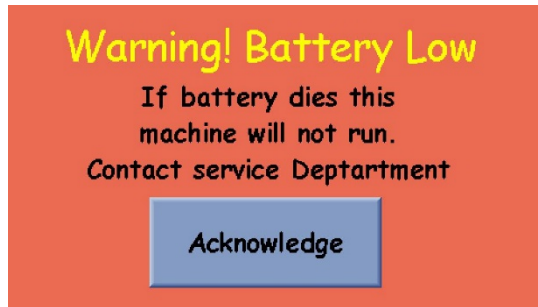

Figure 79. Multimeter Leads, Sockets 8 and 9
22. Once completed, move the leads to sockets 8 and 9 on the connector. **Refer to Figure 79.**